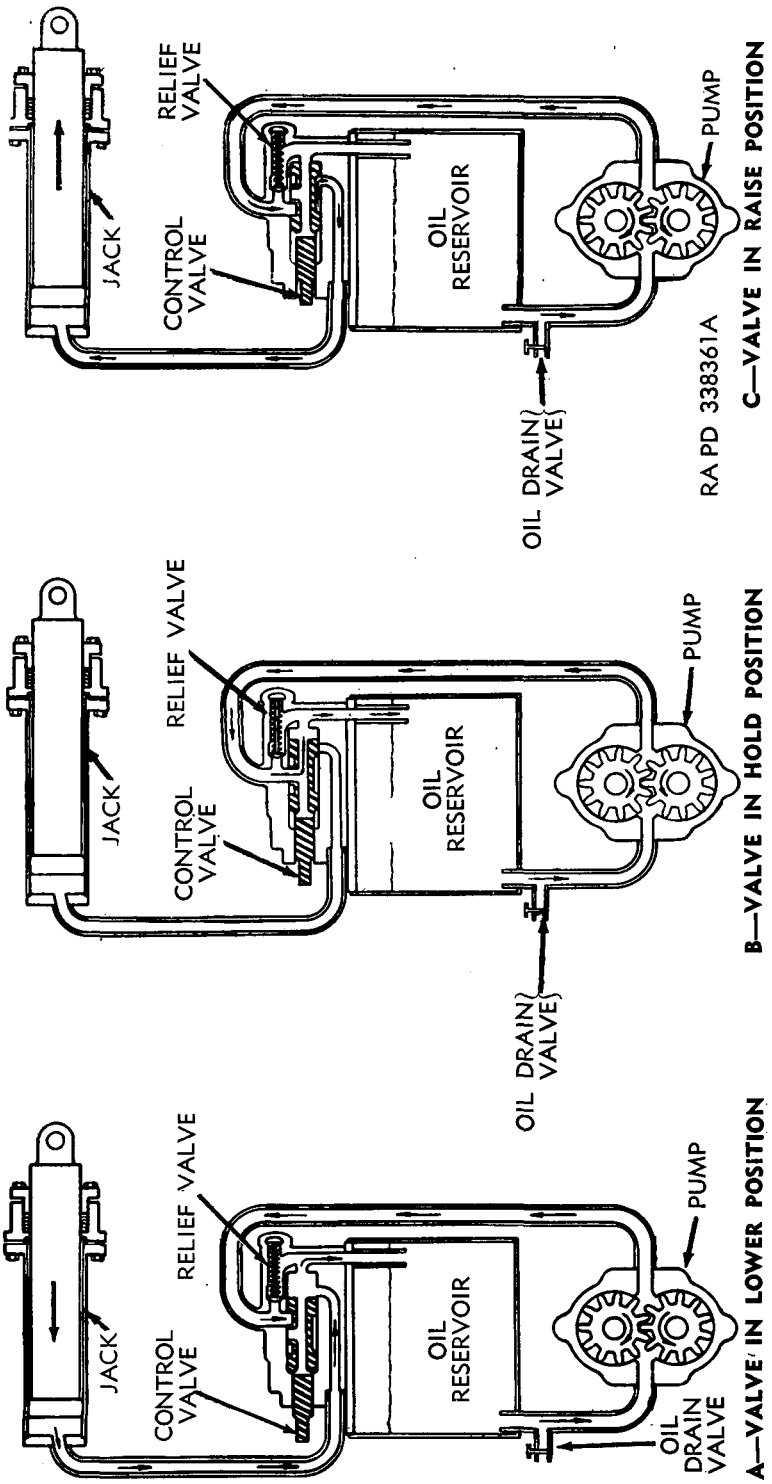

Figure 57. Diagram of hydraulic system functions.
a. **DESCRIPTION.** The bulldozer hydraulic system consists of four principal parts: pump, control valve, oil reservoir, and the hydraulic jack (fig. 57). The oil reservoir mounted on the transmission stores the oil for the system (figs. 5 and 6). The pump, driven by belts from the propeller shaft, builds up approximately 1,300 pounds pressure per square inch, and forces the oil through the control valve against the relief valve to the hydraulic jack. The relief valve, which is an integral part of the control valve, governs the pressure in the system. If control lever is allowed to remain in "raise position" or "lower position" after the jack has reached the end of its travel in either direction, the pressure immediately begins to build up because of the oil being forced into the system by the pump. When this pressure exceeds the relief valve setting, it compresses the relief valve spring, allowing the valve to open and bypass the excess oil pressure back into the oil reservoir. When the control lever is operated to "raise position," the control valve allows the oil pressure to pass to the jack. The pressure within the jack converts the oil pressure into mechanical force required for lifting the bulldozer blade.